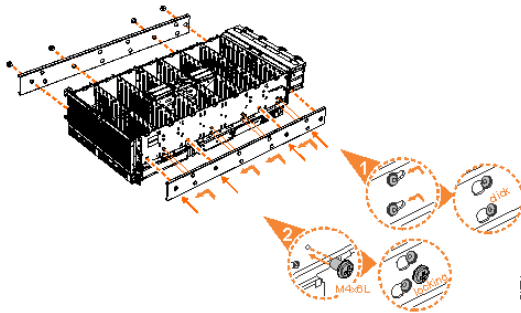

Figure 29. Attaching the inner rail section to the enclosure
5. Install the inner section of the rail onto each side of the expansion enclosure, as shown in Figure 29 on page 43.